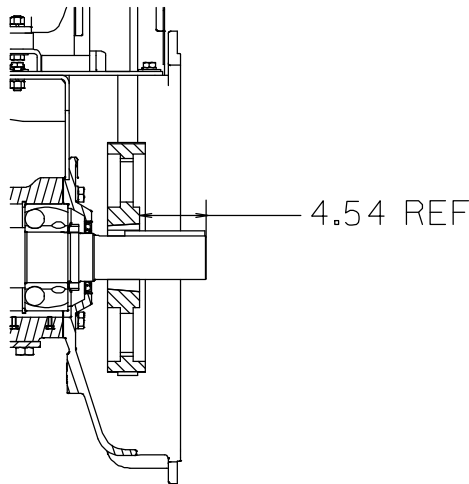

Figure 7. Drive Sprocket Positioning
Install the shaft key (25) in the shaft keyway. Slide the bushing and sprocket (8 and 9) onto the shaft to the dimension shown in Figure 7. Install the bushing setscrews and tighten the setscrews in an alternating sequence to secure the sprocket to the shaft. Torque the setscrews to 66.7 ft. lbs. (800 in. lbs. or 9,2 m. kg.).